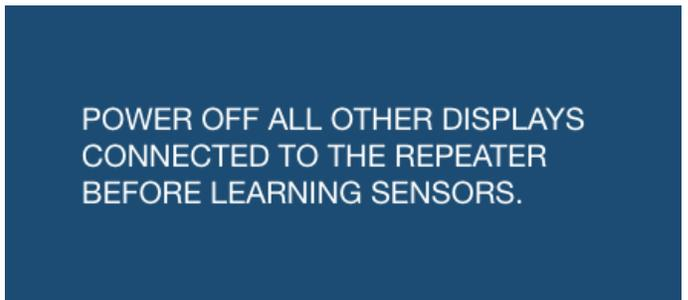

Fig.40
4. A notification will appear on the display for 5 seconds (Fig.40) instructing you to turn off all other displays connected to your repeater before automatically transitioning to the notifications received before sensor learning takes place.